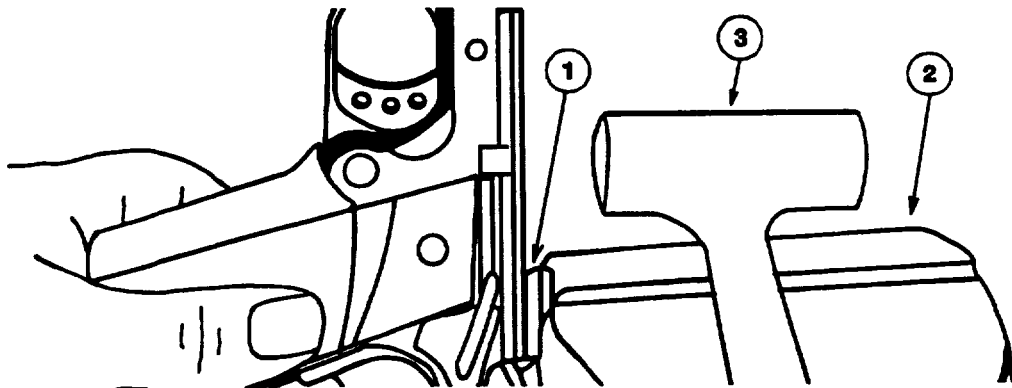

Figure 6-15. Removing Ejector
(3) Tighten ejector (1), Figure 6-15, in a vise (2). Hit the receiver assembly with a 5 oz dead blow hammer (3) to disconnect from ejector.
(1) Inspect ejector (1), Figure 6-15, for wear and burrs. If worn or burred, replace ejector.